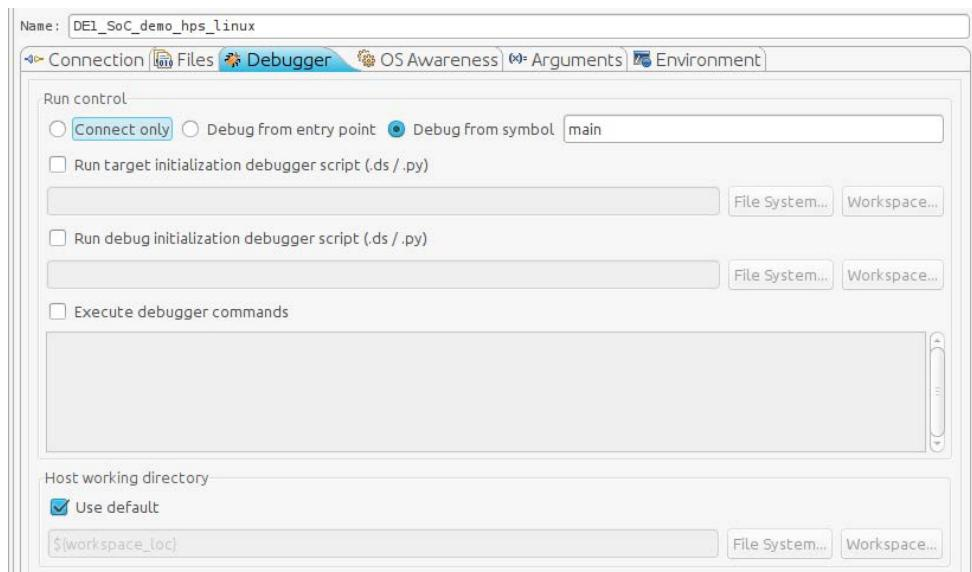

Figure 13-11. Debug Configuration "Debugger" Tab
19. Under the “Debugger” tab, make sure that “Debug from symbol” is selected and that “main” is the name of the symbol, as shown in Figure 13-11.